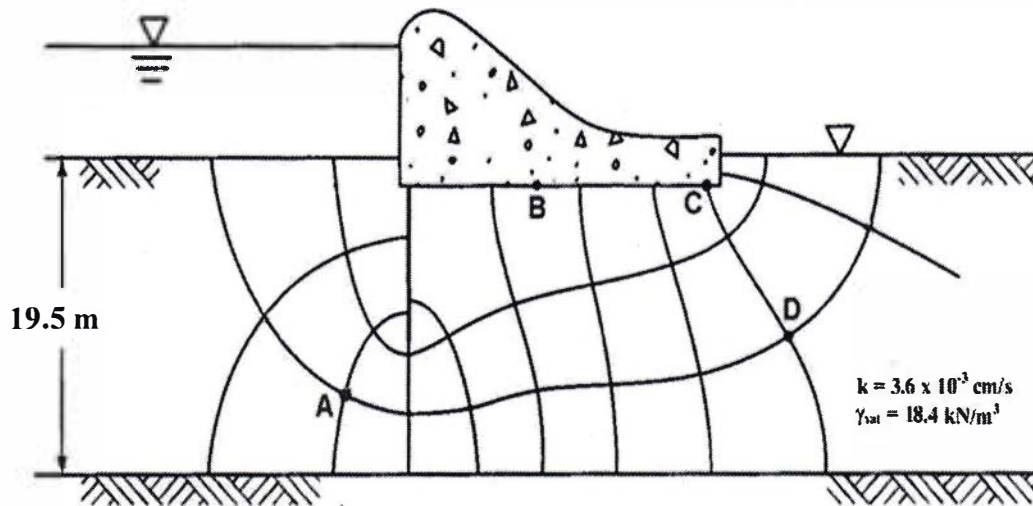
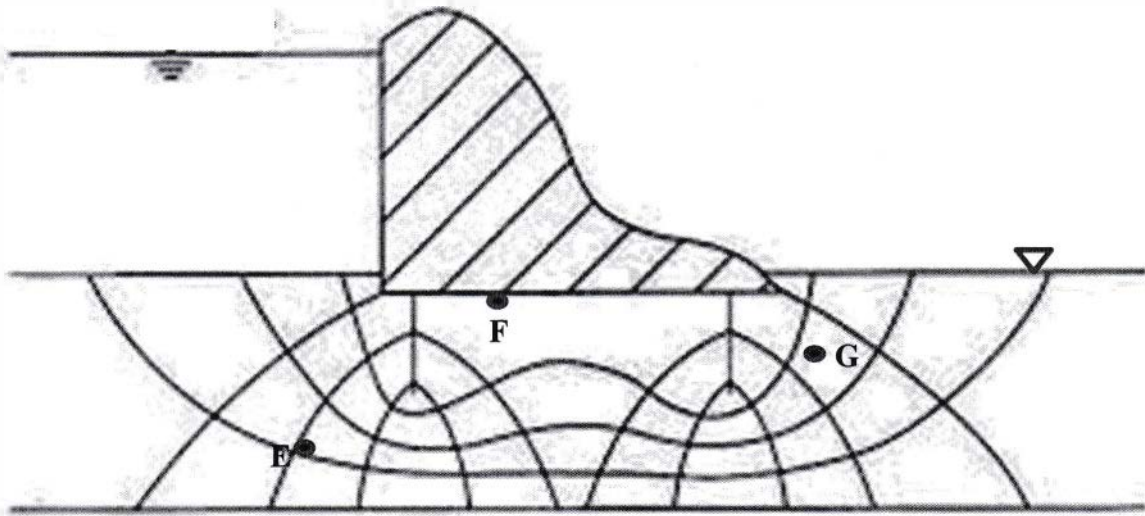

Fig.6a
Fig. 6b
7. Two flownet diagrams are drawn (Fig.6a and Fig.6b) for calculating seepage flow underneath a dam: one with one cut-off sheet pile and the other with two cut-off sheet pile. Seepage flow is occurring due to a head difference (between upstream and downstream end) of 6 m.
| (ii) | Compute the pressure head at the points A, B, C, D, E, F and G (Fig. 6a and Fig. 6b). | 7 |